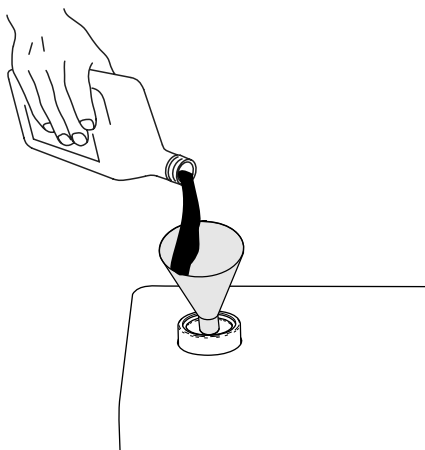

Figure 113
7. If the fluid level is below the lower mark on the dipstick, add the specified hydraulic fluid into the tank (Figure 113). Repeat steps 4 through 6 until the fluid level appears between the 2 marks on the dipstick.